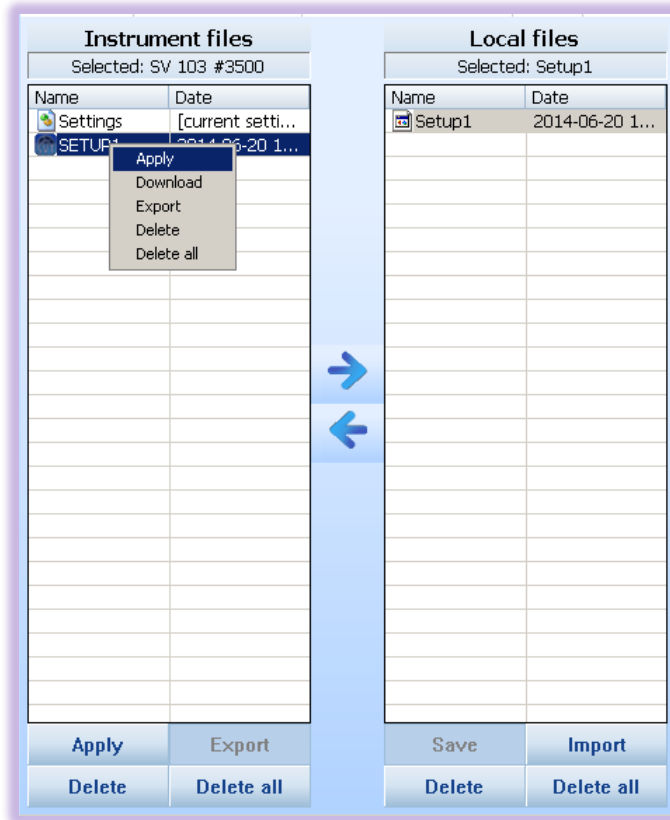

Figure 5-6 "Instrument files" panel and context commands
10. Once copied select the copied file in the Instrument files, and right click onto it to open context menu. Then choose **“Apply”** command (Figure 5-6). Alternatively, you can enter the **“Load Setup”** menu directly in the instrument and load it as the current configuration. See chapter 4.4 for details.